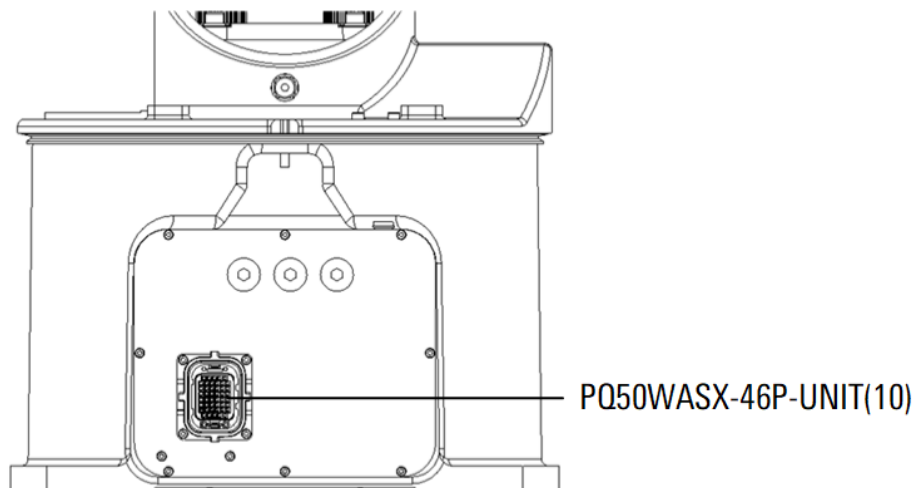

Figure 5-1 Heavy duty connector on the manipulator
There are aviation plugs and heavy-duty connectors on the manipulator. The specific location of the heavy-duty connector PQ50WASX-46P-UNIT (10) is shown in Figure 5-1.